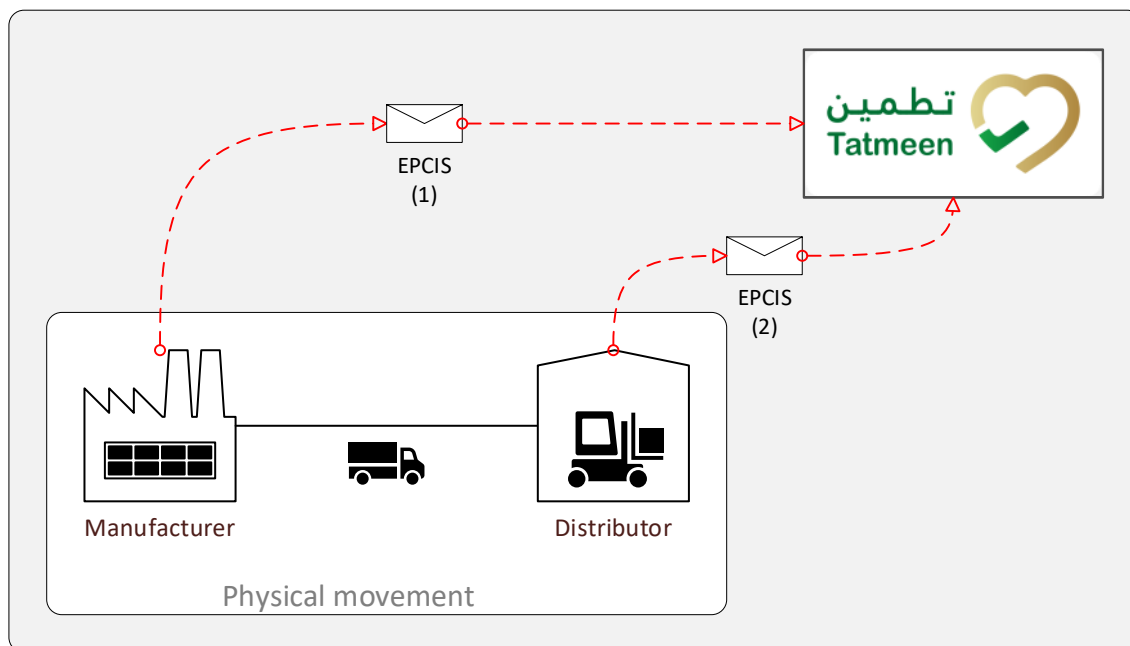

Figure 5 Processing Drugs from Local (Domestic) Manufacturers
This outline refers to Figure 5, above. Note that in the description below there is reference to a Local Sales Permit that is still not in place, however this illustrates the intent.
2. Once the Manufacturer receives the Local Sales Permit and has identified the top-level hierarchy items scheduled for UAE market release, then they must send a single EPCIS message (“EPCIS (1)” in Figure 5) containing the Local Sales Permit reference; commissioning, aggregation and shipping event for the full / partial shipment.
3. Once the local manufacturing EPCIS message is successfully sent to the Tatmeen solution, the products may be shipped from the manufacturer to the local UAE supply chain partner. Note that the EPCIS message ("*EPCIS(2)*" in Figure 5) is described in the Tatmeen Technical Guide for Logistics and is not described in this document.